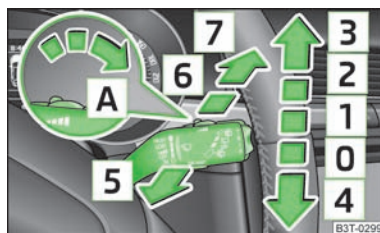

Fig. 49
- If the slower [2] » Fig. 49 or the faster [3] wiper setting is switched on and the vehicle speed decreases to below 4 km/h, the lower wiper step is switched on automatically. At a speed increase of more than 8 km/h the previous wiper setting is established again.
► If you only wish to wipe the windshield briefly, push the lever into the spring-tensioned position [4] » Fig. 49. If the lever is held in the lower position for more than 1 second, the wiper wipes faster.
If the windshield wiper is in position **2** » Fig. 49 or **3** the rear window is wiped every 30 or 10 seconds if the vehicle's speed exceeds 5 km/h.
- › Push the operating level into the position **6** » Fig. 49 five times in succession within 5 seconds.
The headlights are being cleaned after the windscreen has been sprayed for the first time and fifth time, the low beam or main beam are switched on and the windscreen wiper lever was held in the position **5** » Fig. 49 for about 1 second.
- › Then press the windshield wiper lever into position **4** » Fig. 49 within 10 seconds - the wiper arms move into the service position.